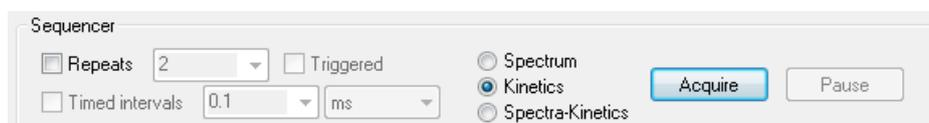

Figure 2.14: the Sequencer panel for fluorescence kinetics
4) Ensure that **Kinetics** mode is selected on the **Sequencer** panel (Figure 2.14).